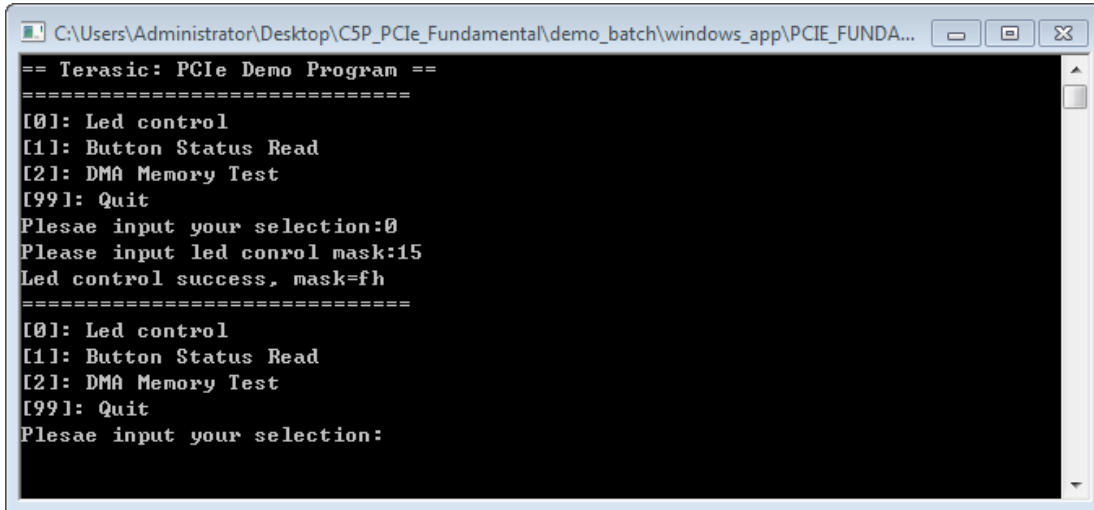

Figure 7-11 Screenshot of LED Control
7. Type 0 followed by a ENTER key to select Led Control item, then input 15(hex 0x0f) will make all led on as shown in **Figure 7-11**. If input 0(hex 0x00), all led will be turned off.